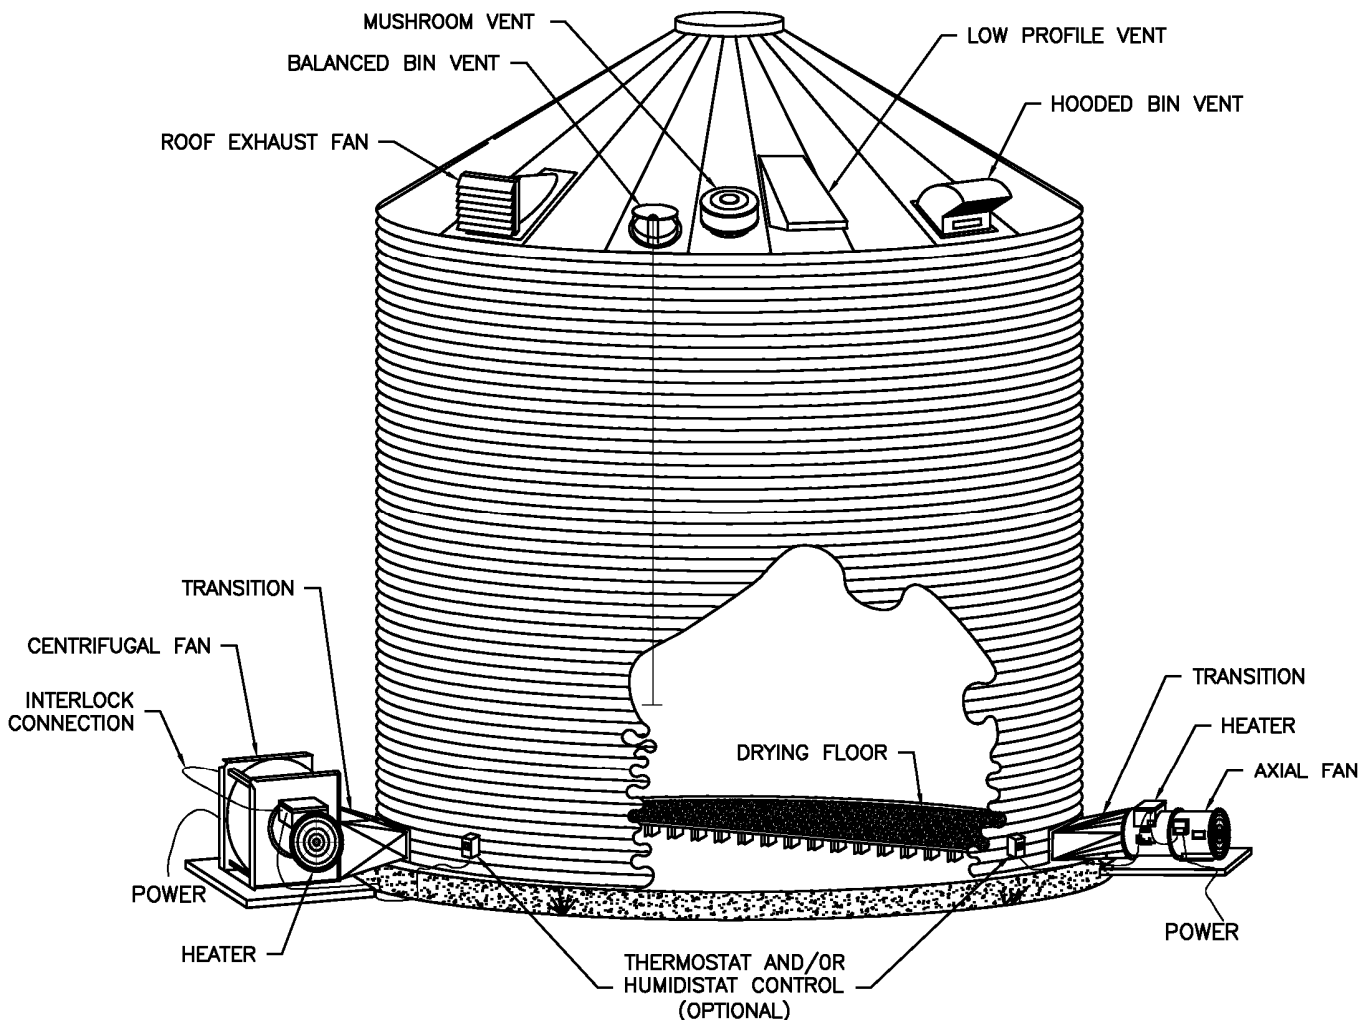

Figure 4. Typical Installation
A. The drying unit (fan, heater, and transition) should be located such that the heated air can enter the bin plenum chamber uniformly. **Figure 4** on page 15 illustrates the components necessary for a typical installation. Make sure all the components needed for the drying system are present. The fan and heater should be located opposite the withdrawal tube for best air distribution.
E. **On axial fan units**, the heater is installed on the air discharge end of the fan. Check airflow decals on the fan and heater to make sure heater is oriented properly. The installation should appear as illustrated in Figure 4. **On centrifugal fan units**, the heater is mounted on the inlet side of the fan. Make sure the airflow decal is pointing toward the fan. The installation should appear as illustrated on page 15.